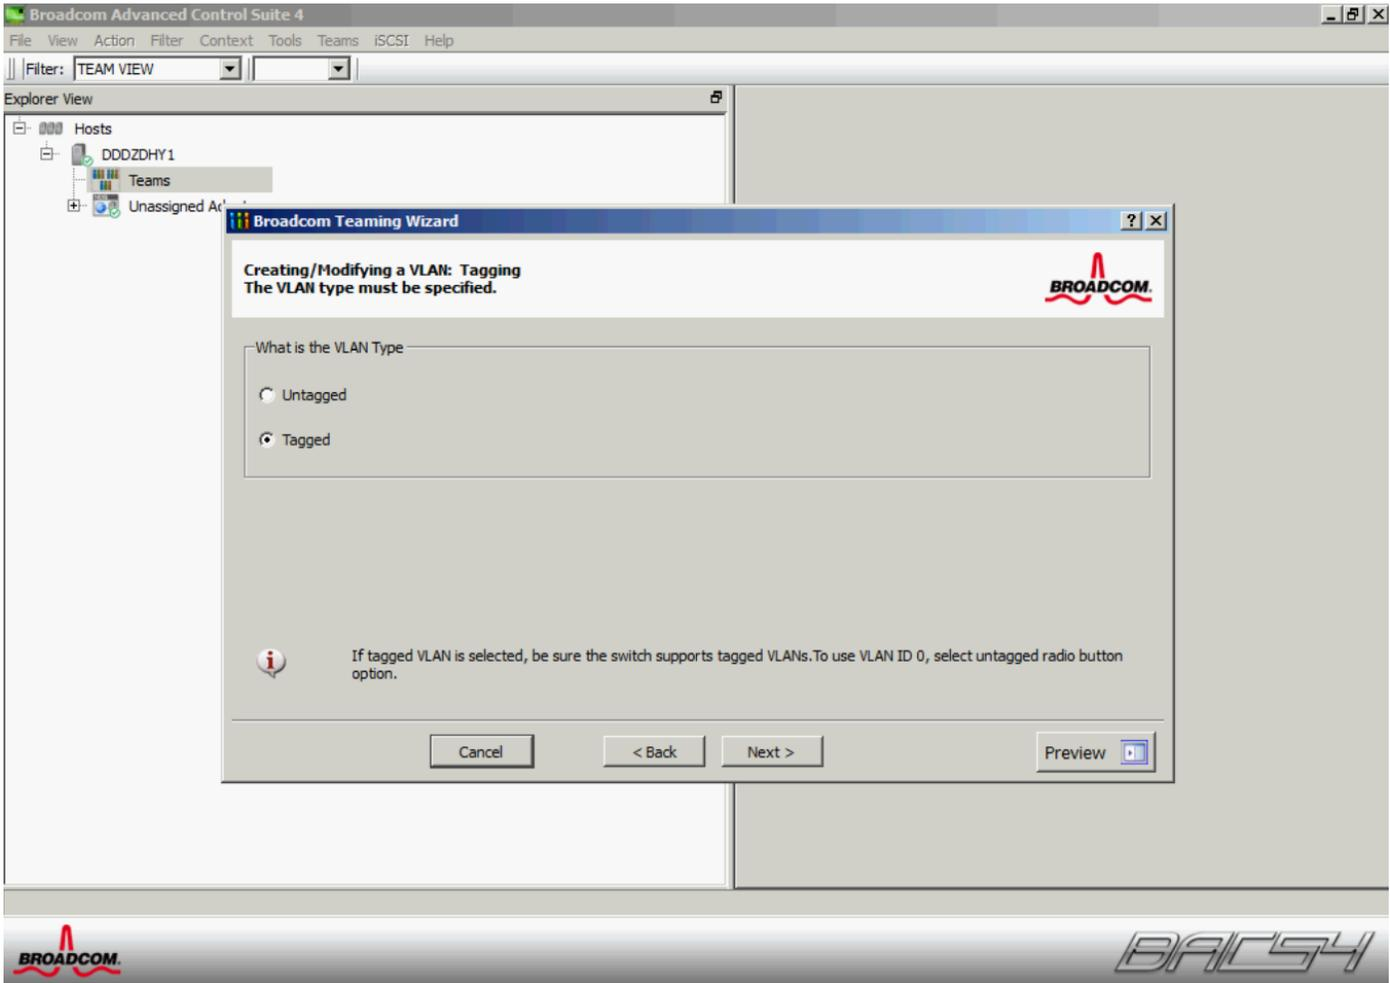

Figure 21 Selecting to have the VLAN tagged on the NIC team
15. Select the **Tagged** radio button (Figure 21) and click **Next**.